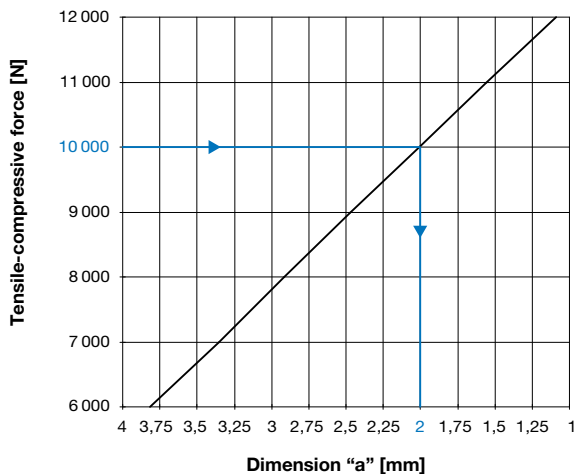

Fig. 2 (This Adjustment Diagram for Size 4, Type 313.600 only serves as an example!)
After having released the set screws (1), the adjusting nut (2) is set to dimension "a" as shown in the Adjustment Diagram (Fig. 2) using a face wrench. By turning the adjusting nut clockwise, the release force is increased. Turning the adjusting nut counter-clockwise leads to a decrease in release force (viewing direction: facing the front of the adjusting nut (2)). Afterwards, the adjusting nut (2) must be secured again using the set screws (1).
$a = 2\text{ mm}$ (Fig. 2)